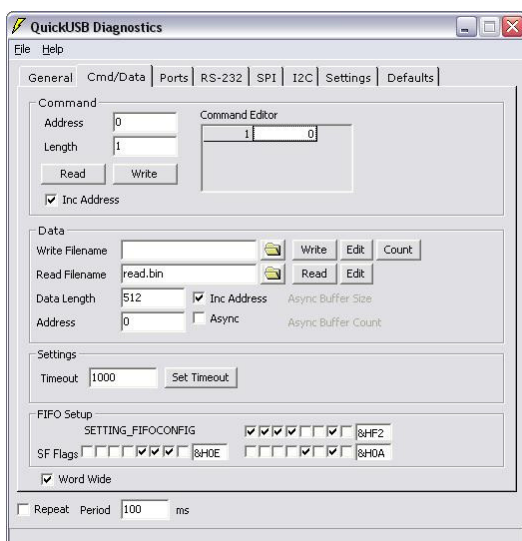

Figure 3 – QuickUSB Diagnostics Cmd/Data Tab for Loop Back Test
- a. Click on the “Cmd/Data” tab as shown in Figure 3.
- b. Under the “Command” section, in the “Address” text box, type “0” as shown in Figure 3.
- c. In the “Length” text box, type “1” as shown in Figure 3.
- d. In the “Command Editor”, Type “0” as shown in Figure 3.
- b. Under the “Data” section, in the “Data Length” text box, enter a value of “512” as shown in Figure 3. This will set the number of words to write to the Output FIFO in the FPGA.